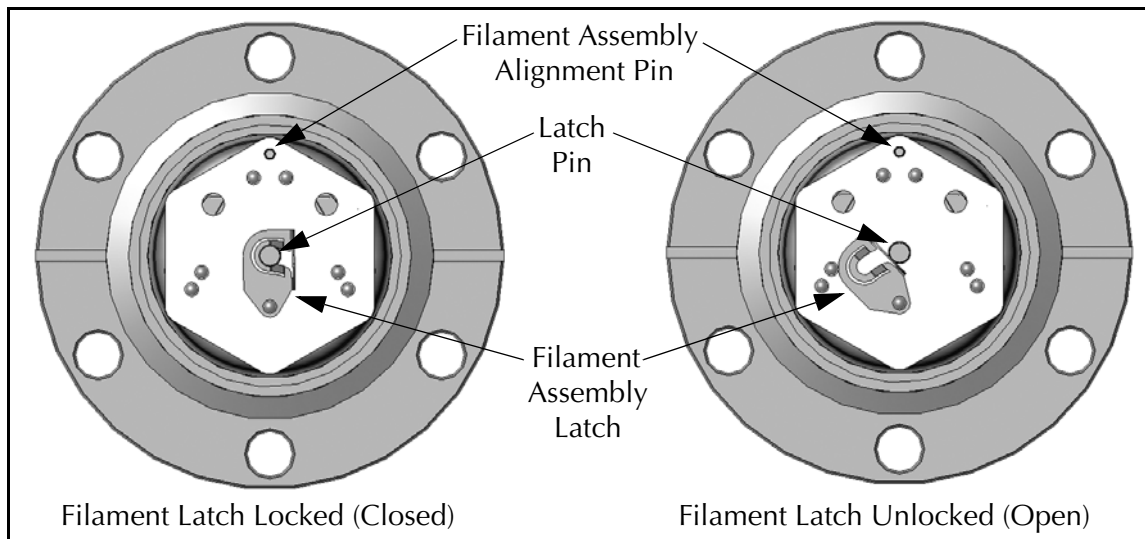

Figure 7-5 Filament Assembly Latch
7. Unlatch the filament assembly so it can be removed from the gauge. Use tweezers or small needle nose pliers to rotate the latch counterclockwise. See Figure 7-5. Do Not use excessive force when unlocking or locking the filament latch.
8. Carefully lift the filament assembly from the gauge. Use tweezers or small needle nose pliers. Note the position of the alignment pin and center pin (latch pin). Also, note the position of the filament, which is between the two large holes. See Figure 7-5.
10. Rotate the latch clockwise to lock the replacement filament in place. Use tweezers or small needle nose pliers. Make sure the latch is in the closed position as shown in Figure 7-5.
16. Perform the (1) Initial Pumpdown (Section 8.3.2), (2) Filament Outgassing (Section 8.3.4), and (3) Auto Tune (Section 8.3.6).